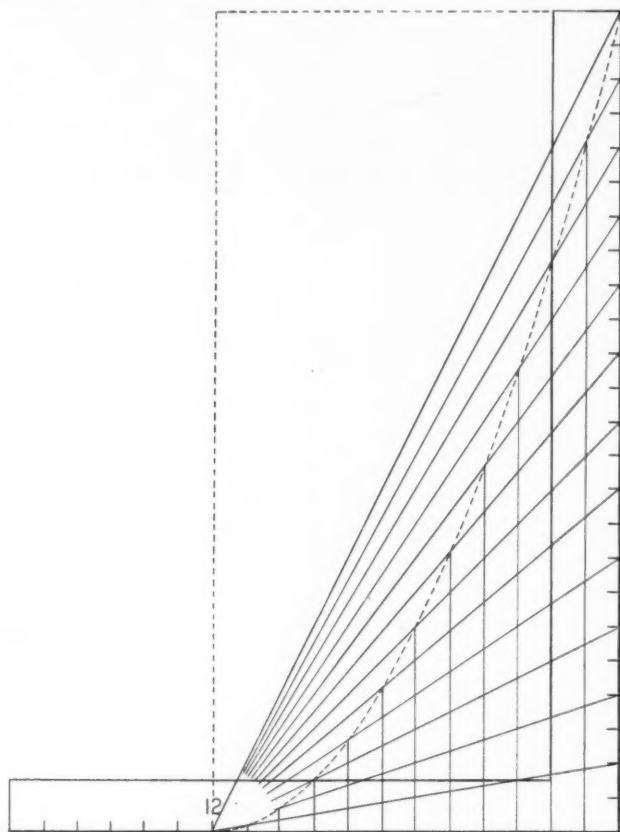

FIG. 255.
**T**AKING up the subject where we left off in the June number, we show in Fig. 255 how an elliptical figure may be drawn by the aid of the steel square, or by first laying off a right angle. By a system of lines, as shown, form the curve as indicated by the dotted line.